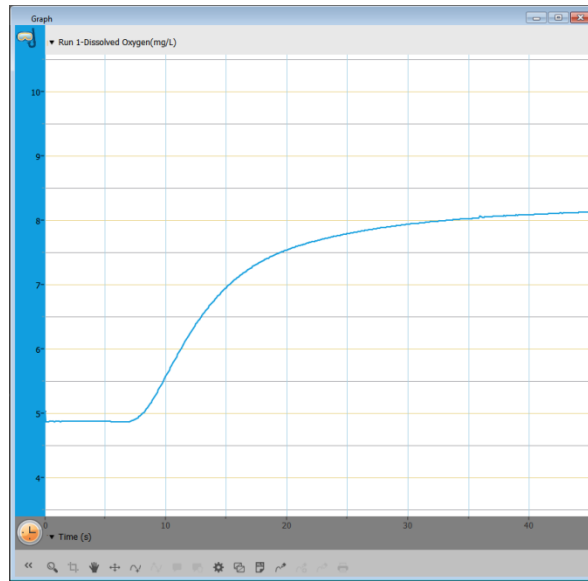

figure-1
5. See expected results on figure-1.